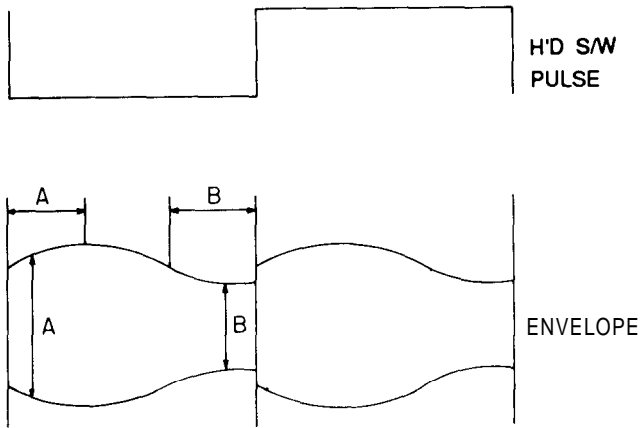

Fig. 11 Adjustment Points
4. If the section A in Fig. 11 does not meet the specification, adjust the S-guide roller up or down
5. If the section B in Fig. 11 does not meet the specification, adjust T-guide roller up or down.